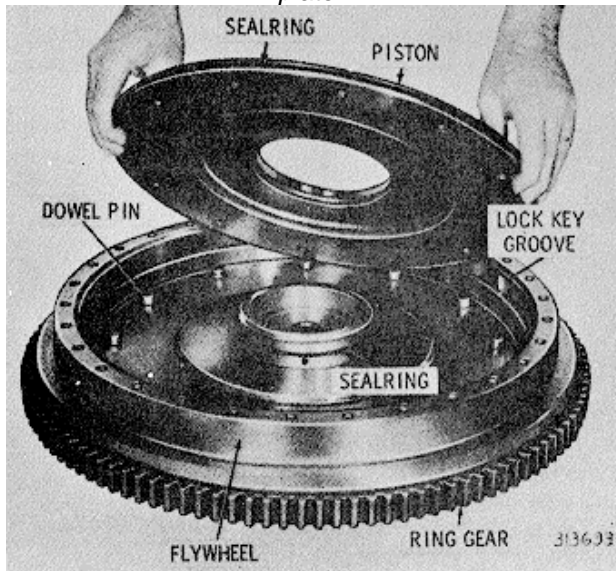
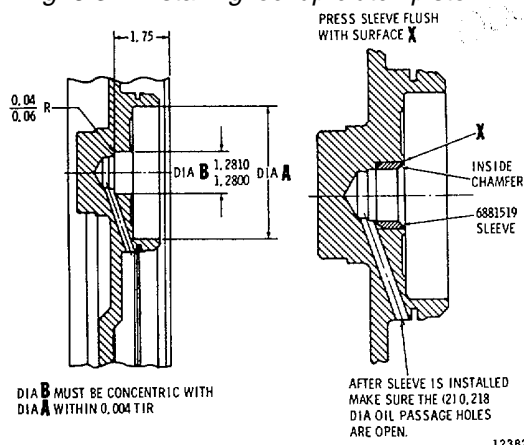

Fig. 6.3. Installing lockup clutch piston.
Fig. 6-4. Rework of flywheel-cross section view.
(6) Remove the lockup clutch piston (fig. 6-3). Remove the sealing from the piston outer groove.
(7) Remove the sealing from the inner hub of the flywheel (fig. 6-3).
(8) If replacement is necessary, remove the starter ring gear from the flywheel after noting whether the gear chamfers are toward the front or rear of the flywheel.
(9) If the sealing surface of the flywheel bore is worn beyond 1.007 inches diameter, rework the bore and install a sleeve (P/N 6881519) as shown in figure 6-4.
(10) Cool the sleeve in dry ice for at least thirty minutes before installing. Proper alignment during installation is necessary to prevent damaging the bore and sleeve.
(11) Press the sleeve flush with surface X (fig. 6-4). Be sure the internal chamfer is toward the rear side of the flywheel.
- (1) If the starter ring gear was removed, install a new gear, as follows.
- (2) Install the starter ring gear after heating it uniformly to 4000F (2040C) maximum temperature. Be sure the chamfers of the teeth are facing the proper direction for starter pinion engagement. The ring gear must seat firmly against the shoulder on the flywheel.
- (3) Lay the flywheel on the assembly table, with the cavity side upward, and install the sealring onto the hub (fig. 6-3).
- (4) Install a sealring on the outside diameter of the lockup clutch piston and lubricate both sealrings.
- (5) Place a pencil mark on the edge of the lockup clutch piston opposite a dowel pin hole. Also place a pencil mark in the flywheel bore, opposite a dowel pin.
- (6) Install the lockup clutch piston into the flywheel, aligning the pencil marks, to engage the recesses in the piston with the dowel pins (fig. 6-3). Be certain the dowel pins are engaged.